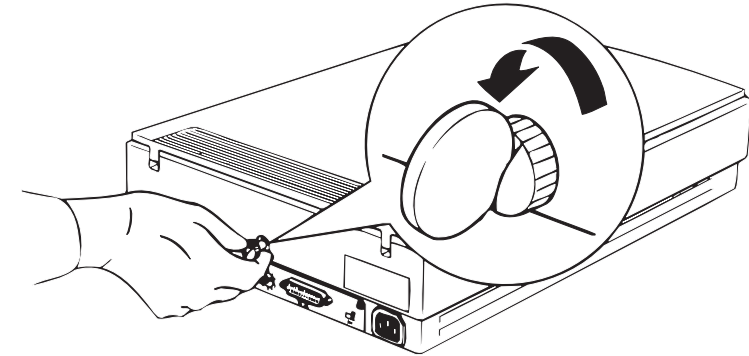

Figure 4-1. Transportation Screw Removal
- *Before disassembling the scanner or checking operation, remove the transportation screw located at the back of the scanner. (See Figure 4-1.) Transportation screw is used to fix the carriage assembly during transporting the scanner.*
- *Before disassembling the scanner or checking operation, remove the transportation screw at the back of the scanner. (See Figure 4-1.) Transportation screw is used to fix the carriage assembly during transporting the scanner.*